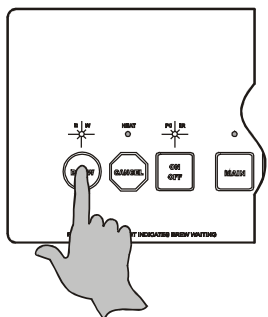

Fig. 8 Initiate a Brew
4. Remove the spray disk from the brew head (See figure 8):